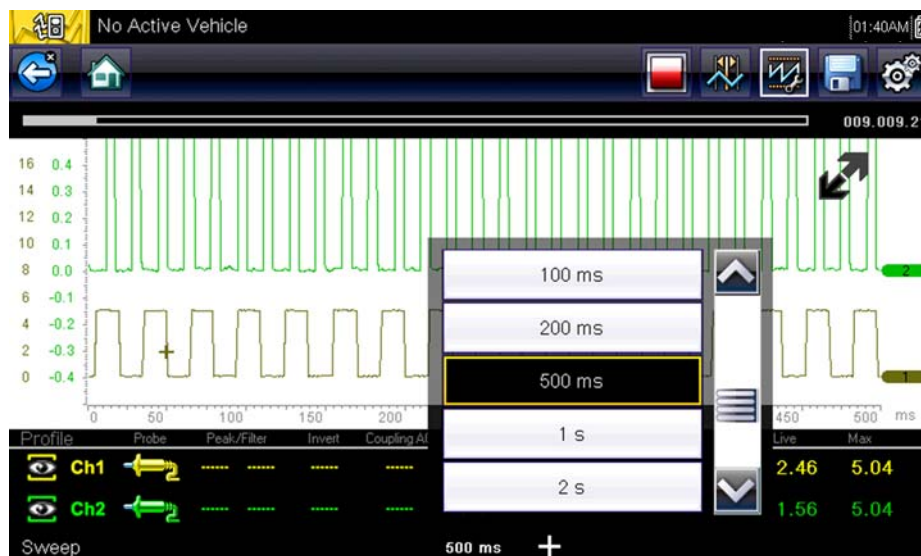

Figure 8-12 Sweep menu
- Select the **Sweep** value on the bottom line of the Profile Controls window. The Sweep menu opens (Figure 8-12).